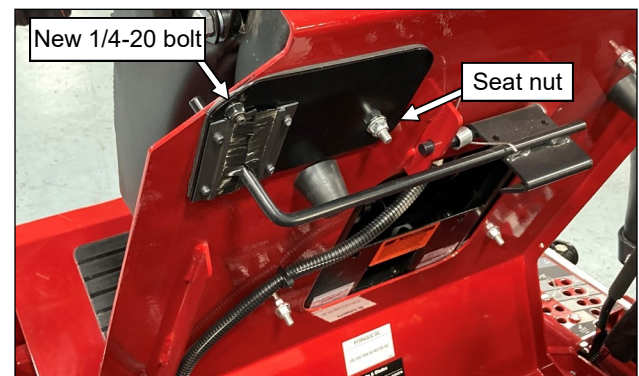

Fig. 2.2 (Install seat lever seal)
- 2.2 Remove the rear left nut holding the seat to the seat base. Per fig. 2.2, install the seat lever seal panel on the under side of the seat base, aligned to the seat bolt and the small hole in the seat base. Secure the panel with the seat nut and a 1/4" bolt and nut.